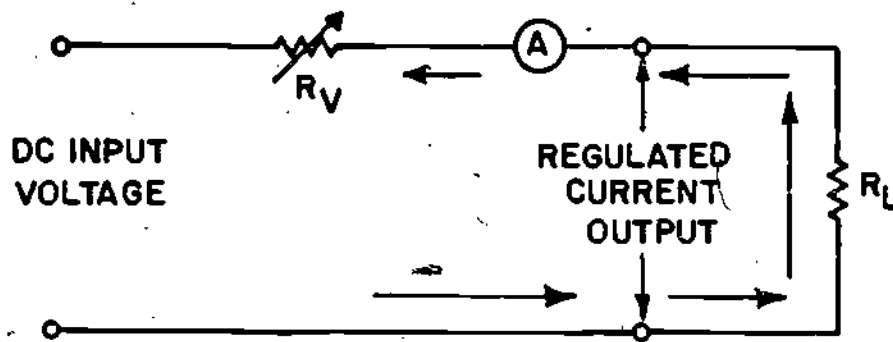

FIGURE 26
34. You now know how voltage regulators work to provide constant output voltages. If you concluded that in some circuits it may be necessary to regulate current output, you are correct. The circuitry which provides a constant current output is called a constant current regulator or just current regulator. The schematic shown in Figure 26 is a simplified schematic for a current regulator. The variable resistor shown on the schematic is used to illustrate the concept of current regulation. As you know from your study of voltage regulators a variable resistor does not respond quick enough to compensate for the changes. Notice that an ammeter has been included in the circuit to emphasize that the circuit is that of a current regulator.